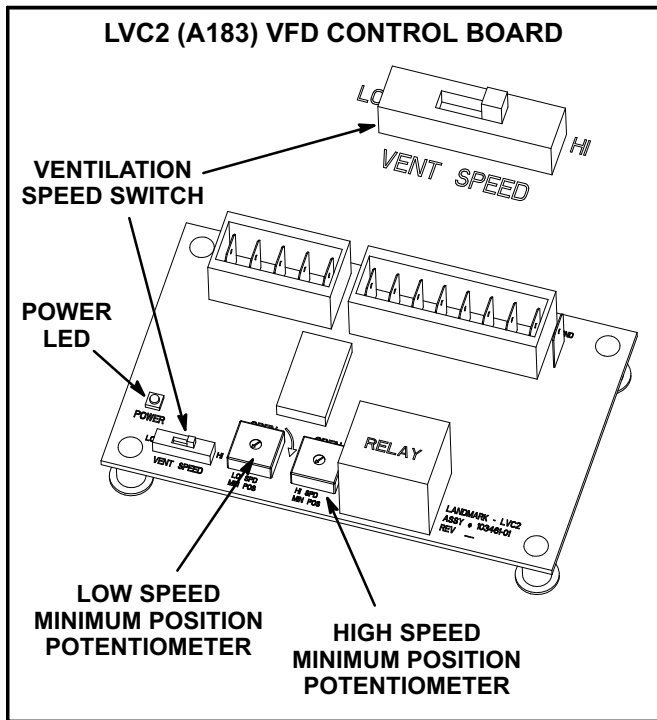

FIGURE 21
To save energy during ventilation, the blower speed can be set to low. This is accomplished by changing the ventilation speed switch on the VFD control board to "LO". See figure 21.
To maintain required minimum ventilation air volumes when the unit is in the occupied mode, two minimum damper positions must be set. A high and a low speed potentiometer are provided on the VFD control board to adjust minimum damper position. See figure 21.
- 5- Check the power LED on the board. See figure 21.
- 8- When LVC2 24VAC thermostat blower (G) input and 24VDC power are present, check the LVC2 low and high speed outputs. The LVC2 uses inverse logic to enable the blower; 1VDC will be read at the enabled blower speed terminal. See table 18.